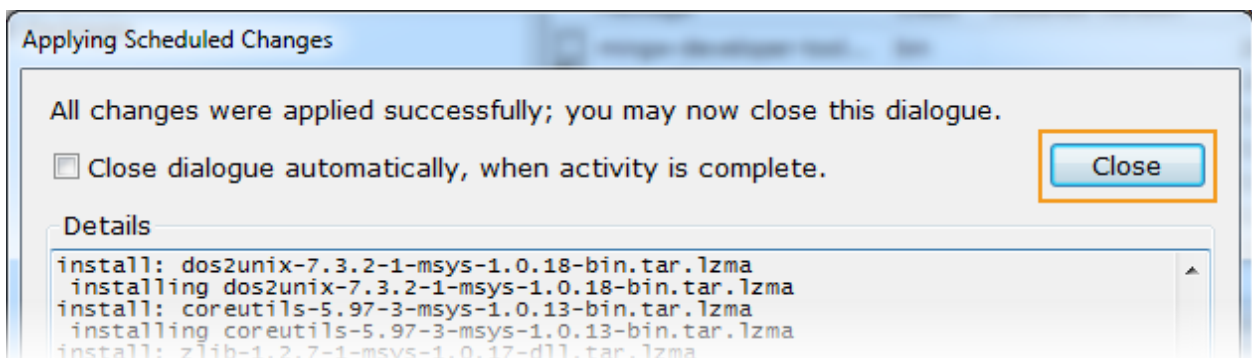

Figure 21. Applying scheduled changes
- 8) Click **Close** to close the dialog window once the operation is complete (see Figure 21).